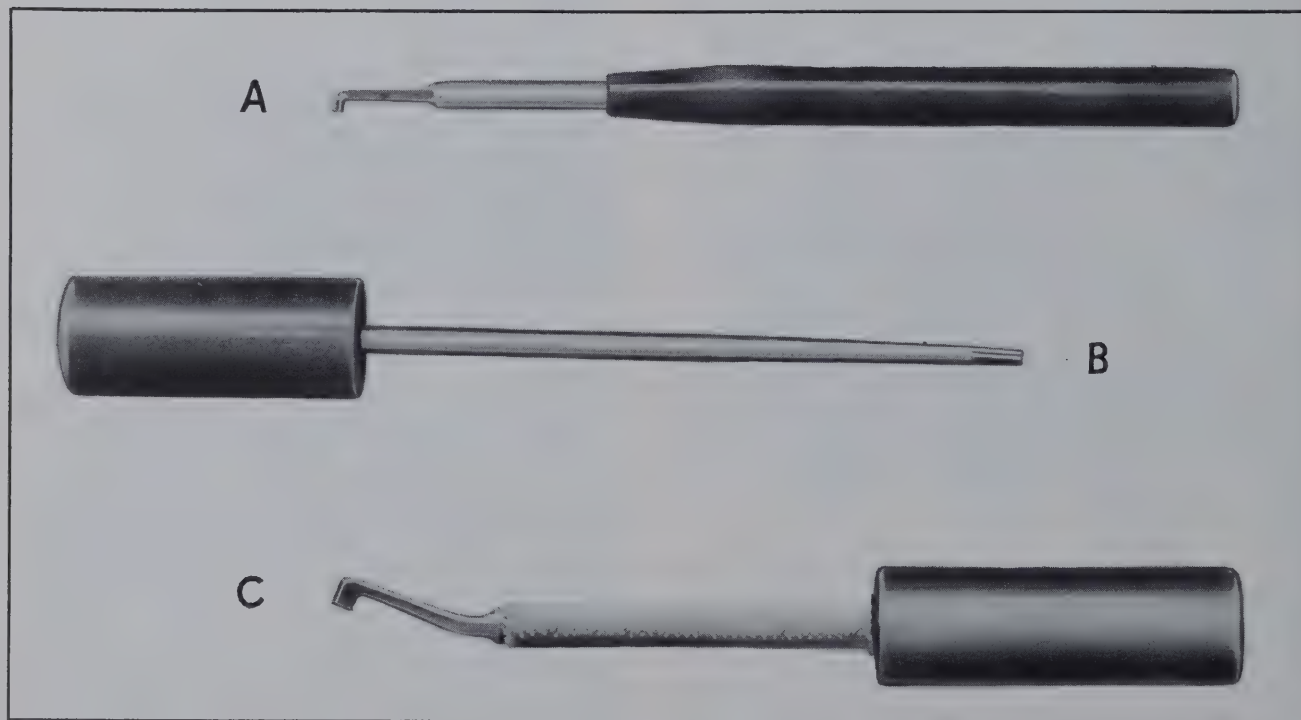

Figure 1-13. Relay Forming Tools
(1) The contact forming tool H-704 (part A of fig. 1-13) has a steel shank inserted in a bakelite handle. The end is turned at right angles to the shaft and contains a small slot for forming contacts.
(2) The contact forming tool H-705 (part B of fig. 1-13) has a straight steel shank inserted in a bakelite handle. The end tapers, and contains a small slot for forming contacts.
(3) The contact forming tool H-706 (part C of fig. 1-13) has a 30-degree angle steel shank inserted in a bakelite handle. The end contains a small slot for forming contacts.